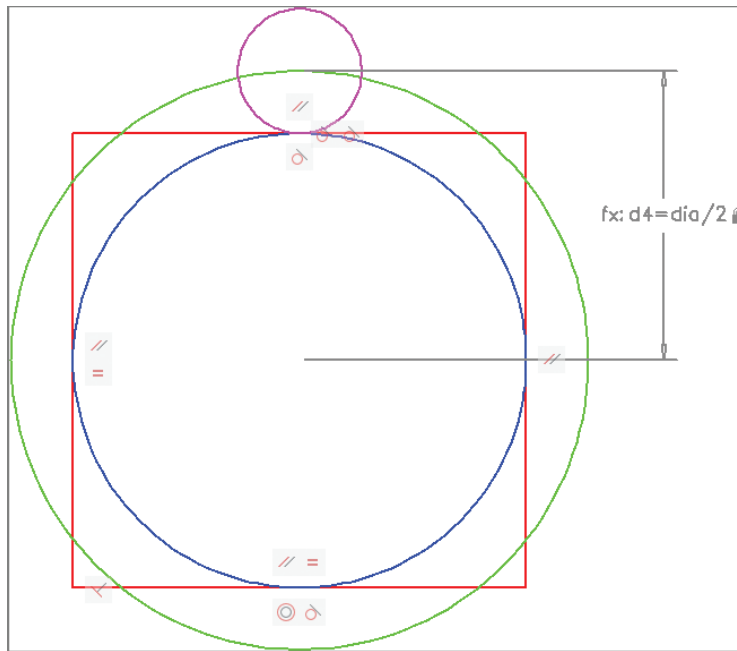

FIGURE 12.12 Adding the last dimensional constraint
11. Click the Linear constraint tool in the Dimensional panel. Click the magenta circle, the blue circle, and then a point off to the right to place the dimension line. Type **d4=dia/2**, and press Enter (see Figure 12.12). The center of the magenta circle is anchored effectively at the top quadrant (or top cardinal point) of the green circle.